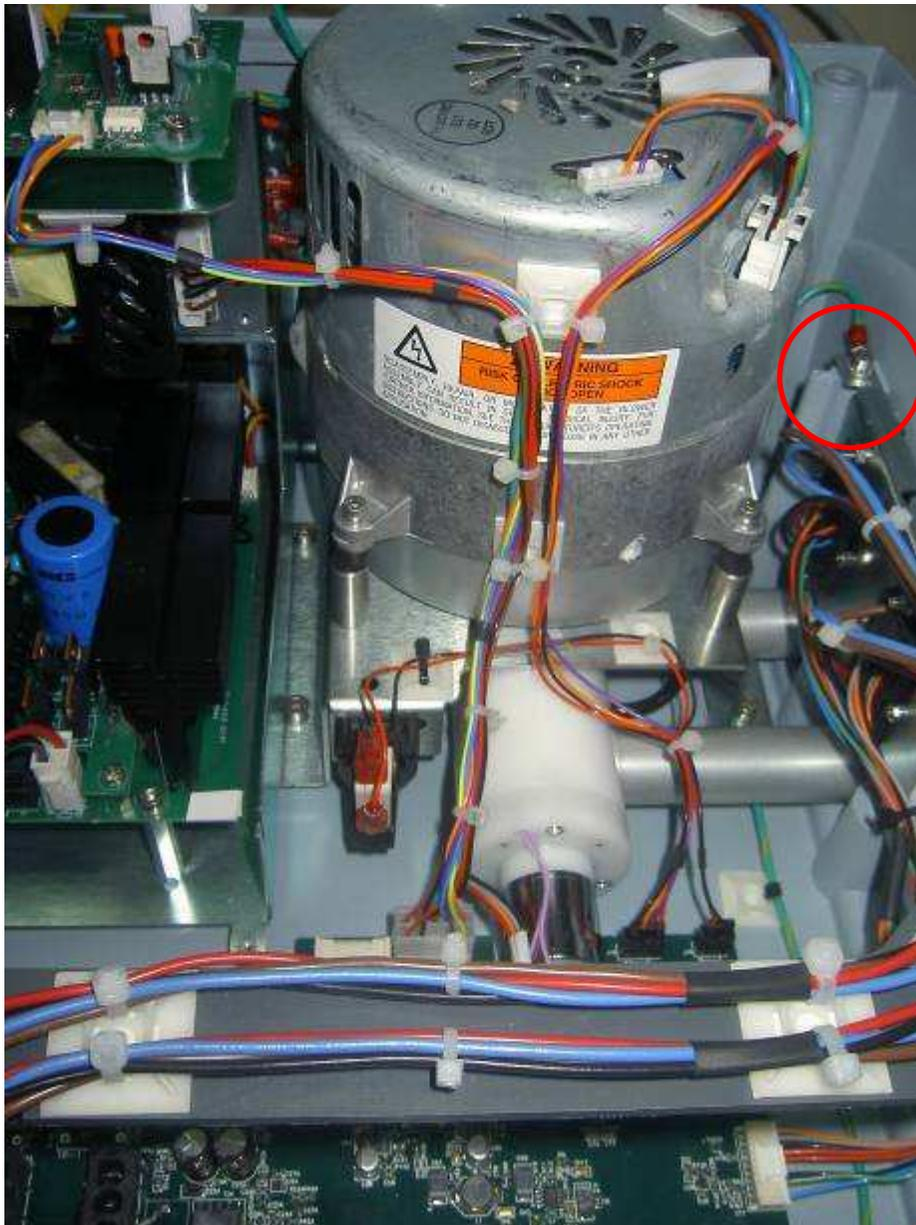

Figure 127
5. Check suction. If it's below 200L/H use the Pot on the Blower to raise suction until 200L/H is reached. (Figure 127)